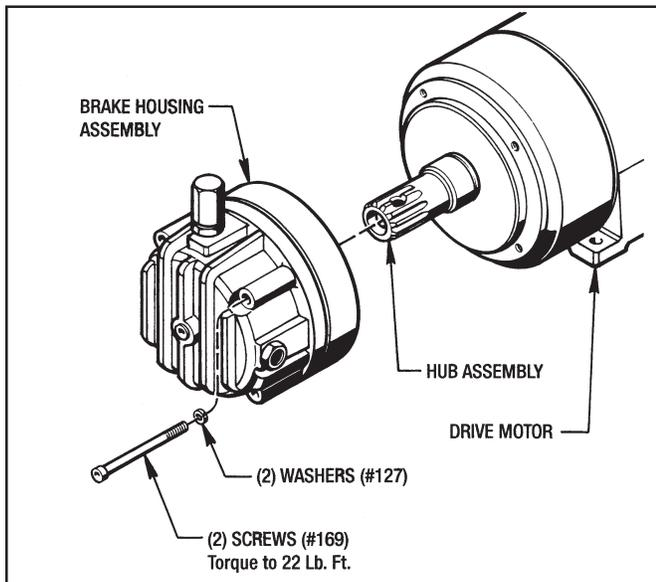

Figure 3.3 - Installing Brake Housing Assembly
(See Figure 3.3)
1. Slide the Brake Housing Assembly carefully over the Hub. (See Figure 3.3)